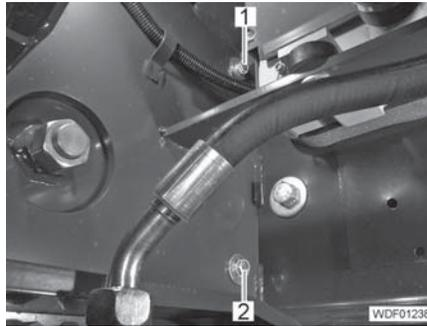
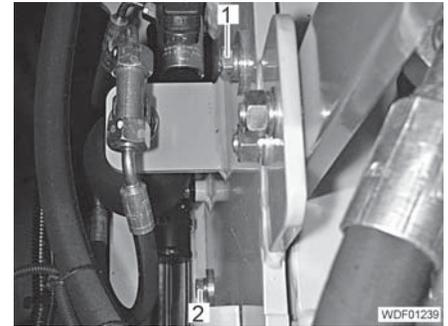

Fig. 222 Rear attachment
Fig. 223 Front attachment (top)
- Unscrew the screw (Fig. 222,2) and the screw (Fig. 223,2).
- Hold the hydraulic oil tank and simultaneously unscrew the screw (Fig. 222,1) and screw (Fig. 223,1).
- Position hydraulic oil tank at the side and simultaneously screw in the screw (Fig. 222,1) and screw (Fig. 223,1) with spring lock washers and disks.
- Screw in screw (Fig. 223,2) and screw (Fig. 222,2) with spring lock washers and disks.